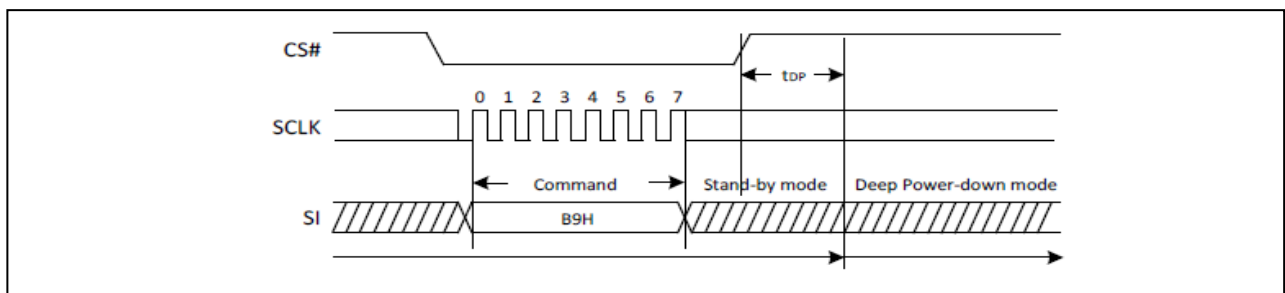

Figure20. Deep Power-Down Sequence Diagram
The Deep Power-Down command sequence: CS# goes low→sending Deep Power-Down command→CS# goes high. The command sequence is shown in Figure 20. CS# must be driven high after the eighth bit of the command code has been latched in; otherwise the Deep Power-Down (DP) command is not executed. As soon as CS# is driven high, it requires a delay of tDP before the supply current is reduced to ICC2 and the Deep Power-Down Mode is entered. Any Deep Power-Down (DP) command, while an Erase, Program or Write cycle is in progress, is rejected without having any effects on the cycle that is in progress.